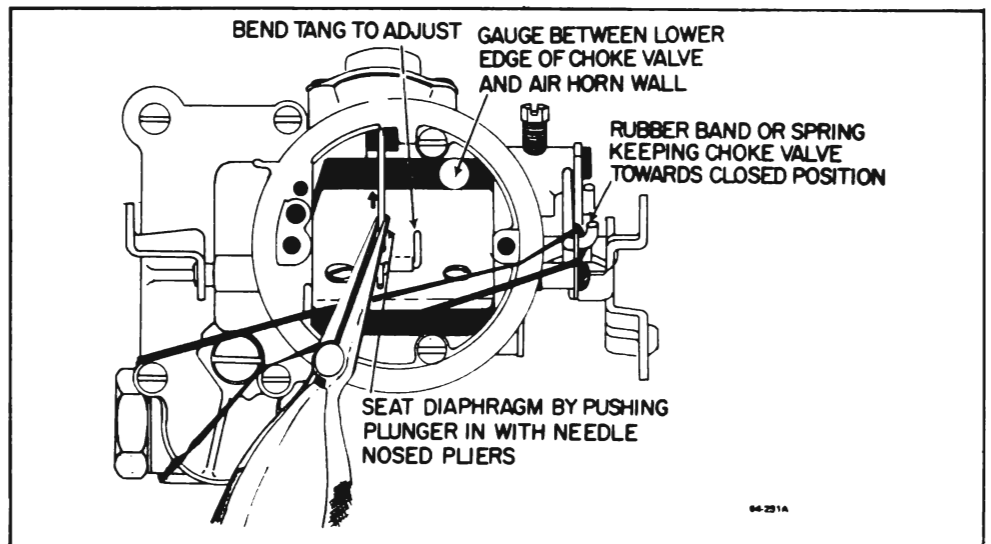

Figure 64-67 Vacuum Break Adjustment
3. Grasp vacuum break plunger rod with needle nose pliers and push straight inward until diaphragm seats. See Figure 64-67.